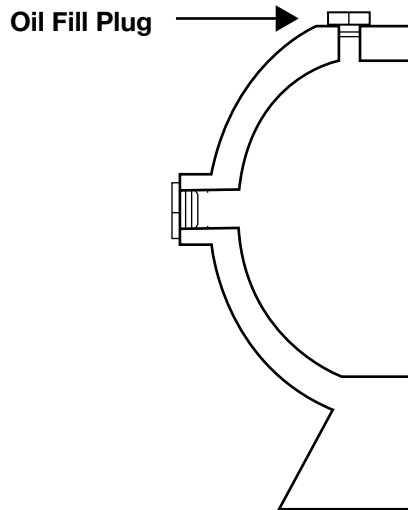

Figure 1
2. Remove filler plug (small plug on the top) (See below figure 1) also lift the pump unit up  $\frac{3}{8}$ " –  $\frac{3}{4}$ ", and add hydraulic oil until the oil weeps out of this hole. (Figure 2) Replace plug